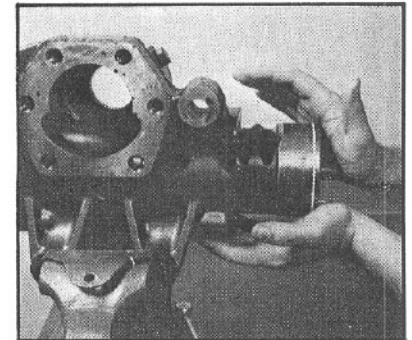

Figure 105
10. Apply a generous amount of clean grease to the teflon rack piston seal ring (29) and to the housing cylinder bore. Install the rack piston (31) and worm shaft/input shaft (17) as an assembly into the *long* end of the gear housing (20), so that the Teflon rack piston seal goes in last (FIG. 105).